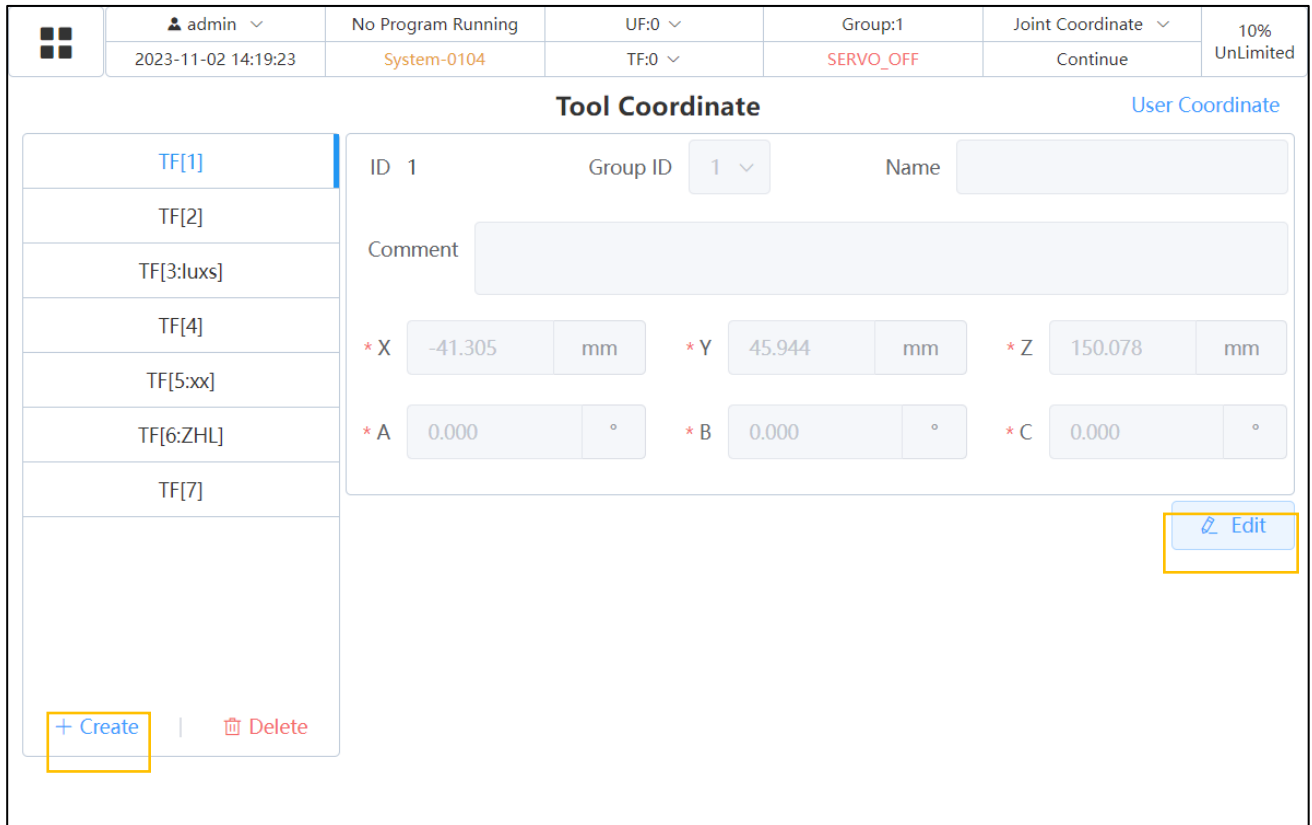

Fig. 2.13 Tool Coordinate System Setting Interface 1
1. Click "Menu Button" → "Coordinate System" → "Tool Coordinate System" to enter the tool coordinate system setting interface, as shown in Fig. 2.13.